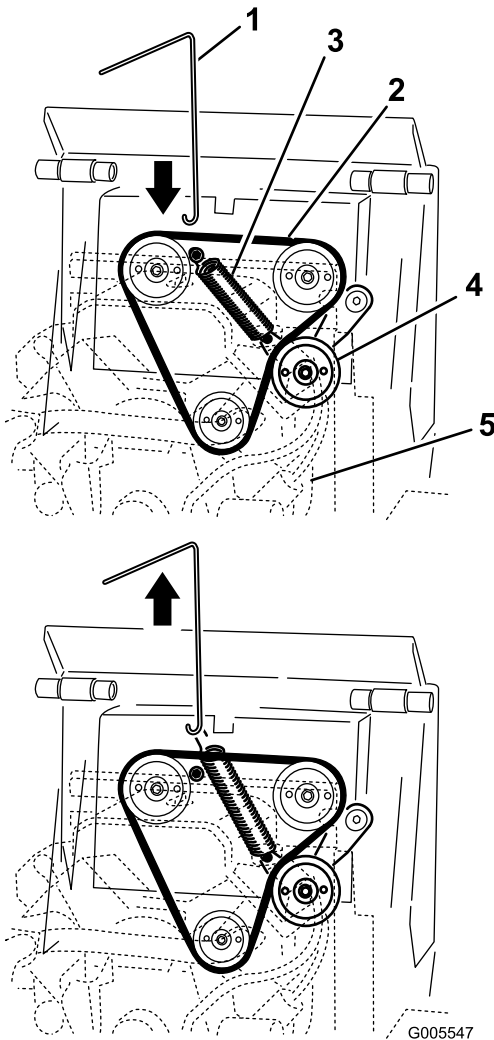

Figure 47
3. Connect the hook on the spring removal tool to the hook on the idler pulley spring, and disconnect the spring from the stud as illustrated in Figure 47.